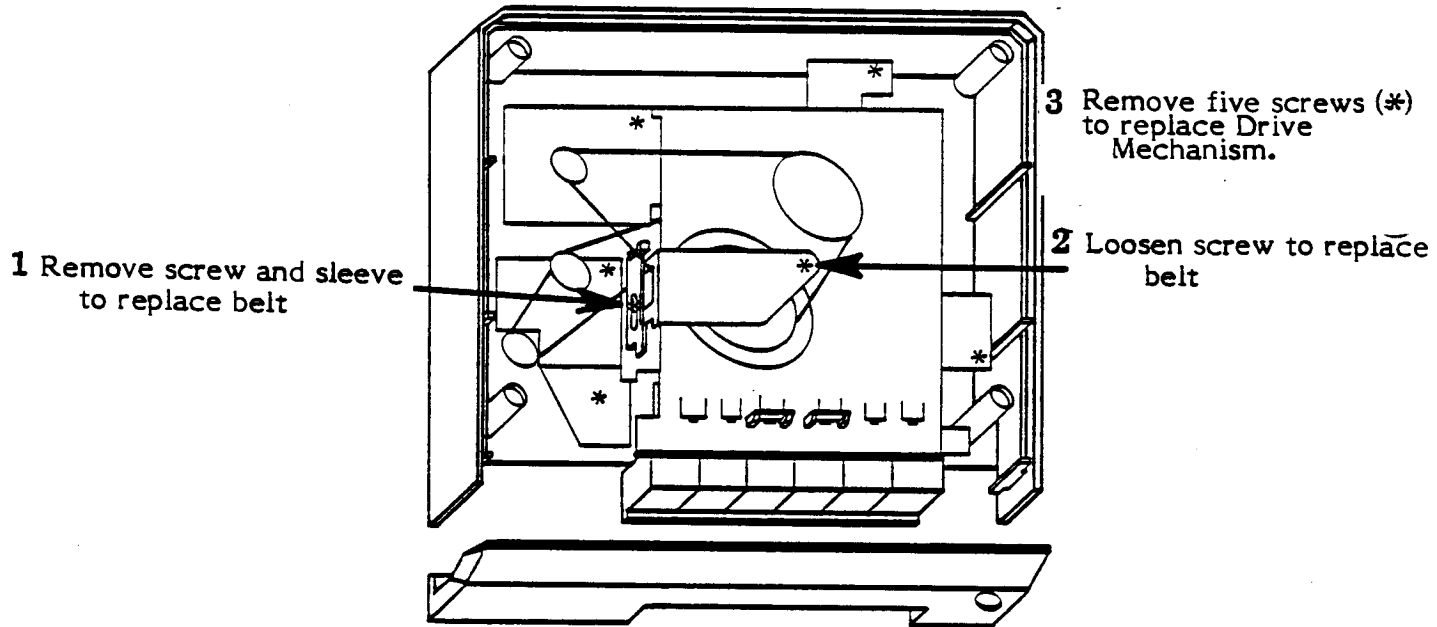

Figure 3-5. Screw Locations on the 1010C
- Remove the drive mechanism from the top cover by removing the five screws holding it in place (see Figure 3-5 below) and releasing the cassette door lock (press the STOP/EJ button).
- With the control buttons facing you, remove the screw and its sleeve on the left side of the largest drive wheel. This screw is noted as 1 in Figure 3-5.
- Loosen the screw on the right side of the wheel shield. This screw is noted as 2 in Figure 3-5. Do not remove this screw completely.
- Replace and tighten the screw and sleeve on the left side of the wheel shield (2) and then tighten the screw on top (1).